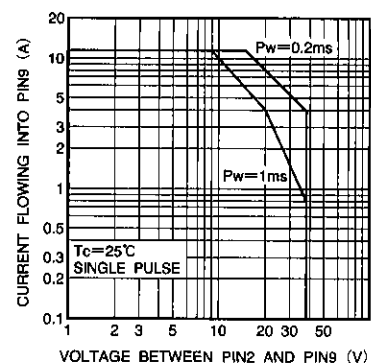

Fig.13 Safe operation range (ASO)
- (1) The output current should be reduced according to an increase in the input voltage or ambient temperature. Use the IC within the derating curve range.
- (2) Pins 5 and 7 are not used.
- (3) No circuit is installed in the IC to protect against excessive output currents. Take physical safety measures such as fusing if short-circuit loading is probable.
- (4) A large rush current may flow in the IC when the input voltage is applied or the output ON/OFF is controlled with pin 4 without a capacitor such as C1 in application 2. Comply with the safe operation ranges shown in Figs. 13, 16, and 19.